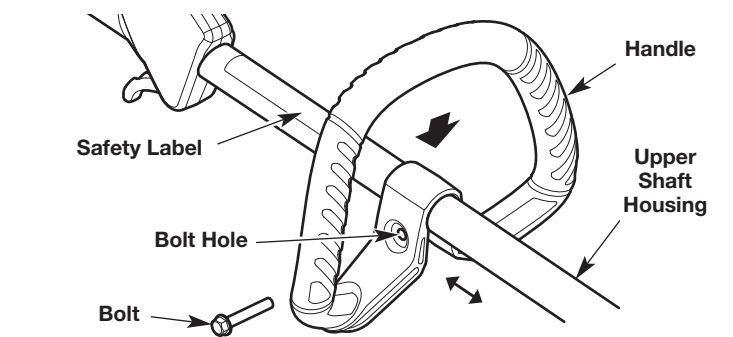

Fig. 6
1. Push the handle down onto the upper shaft housing (Fig. 6). Make sure the bolt hole faces to the right (Fig. 6).
2. Insert the bolt into the bolt hole and push it through (Fig. 6). Tighten the bolt with a flat-head screwdriver, but do not tighten the bolt completely.
3. Hold the unit in the operating position (Fig. 11). Move the handle up or down the upper shaft housing to a comfortable location (Fig. 6). Make sure the handle is positioned beyond the end of the safety label (Fig. 6).
1. Loosen the bolt with a flat-head screwdriver (Fig. 6).
2. Hold the unit in the operating position (Fig. 11). Move the handle up or down the upper shaft housing to a comfortable location (Fig. 6). Make sure the handle is positioned beyond the end of the safety label (Fig. 6).